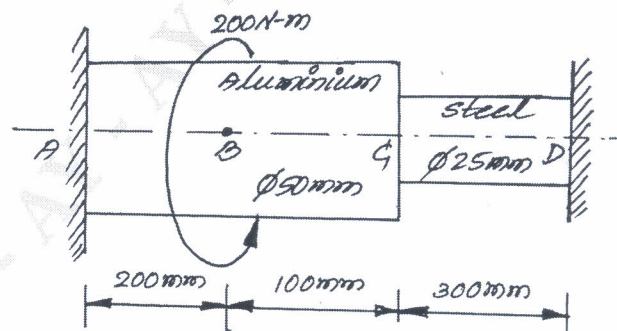

Fig Q6(b)
- b. A composite step shaft as shown in Fig Q6(b), consists of an aluminium section 50mm in diameter and a steel section 25mm in diameter. The ends of the shaft are fixed. Determine the maximum stress in aluminum and steel shafts. Take  $G_{\text{Steel}} = 84 \text{ GPa}$  and  $G_{\text{Al}} = 28 \text{ GPa}$ .